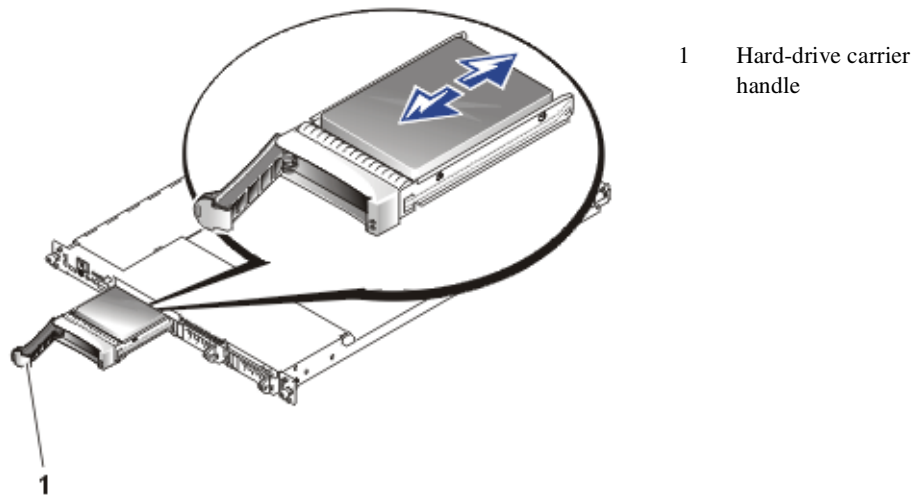

Figure 4-7: Replacing the SCSI Hard Drive and Carrier
2. The hard drives are “hot-swappable.” Open the drive carrier handle (see Figure 4-7) and wait until the drive spins down before proceeding.